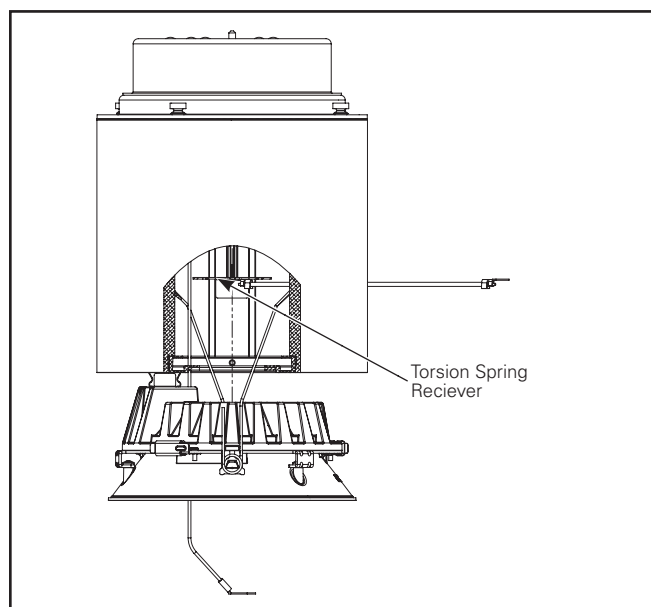

Figure 14.
- Install the LED Engine and trim assembly by inserting the torsion springs into the spring receivers located inside the housing. (Figure 14.)